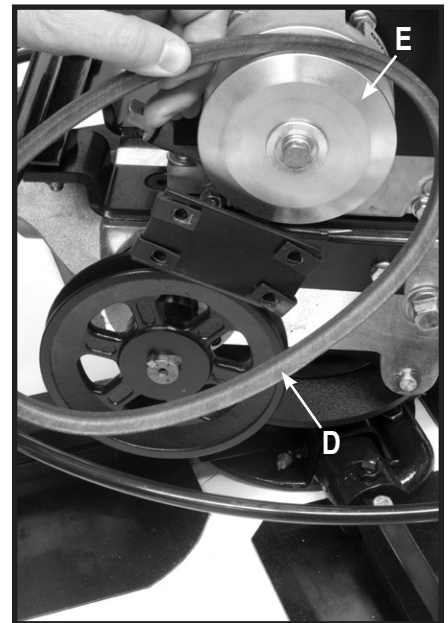

Figure 3
3. After the belt (D) has cleared the pulley, remove it from the clutch (E). See figure 3.